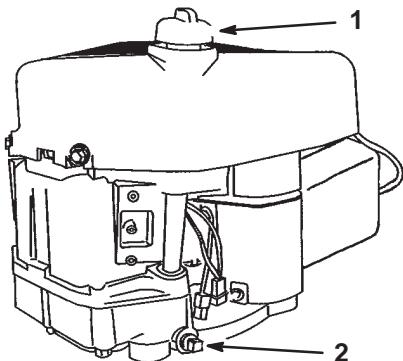

Figure 16
3. Clean around the oil dipstick (Fig. 16) so that dirt cannot fall into the fill hole and damage the engine.
4. Place a pan below the drain plug and remove it (Fig. 16).
7. Slowly pour approximately 80% of the specified amount of oil into the fill hole (Fig. 16). Check the oil level; refer to Checking the Oil Level, page 20, steps 4–5.
5. Slowly pour approximately 80% of the specified amount of oil into the fill hole (Fig. 16). Check the oil level; refer to Checking the Oil Level, page 20, steps 4 and 5.